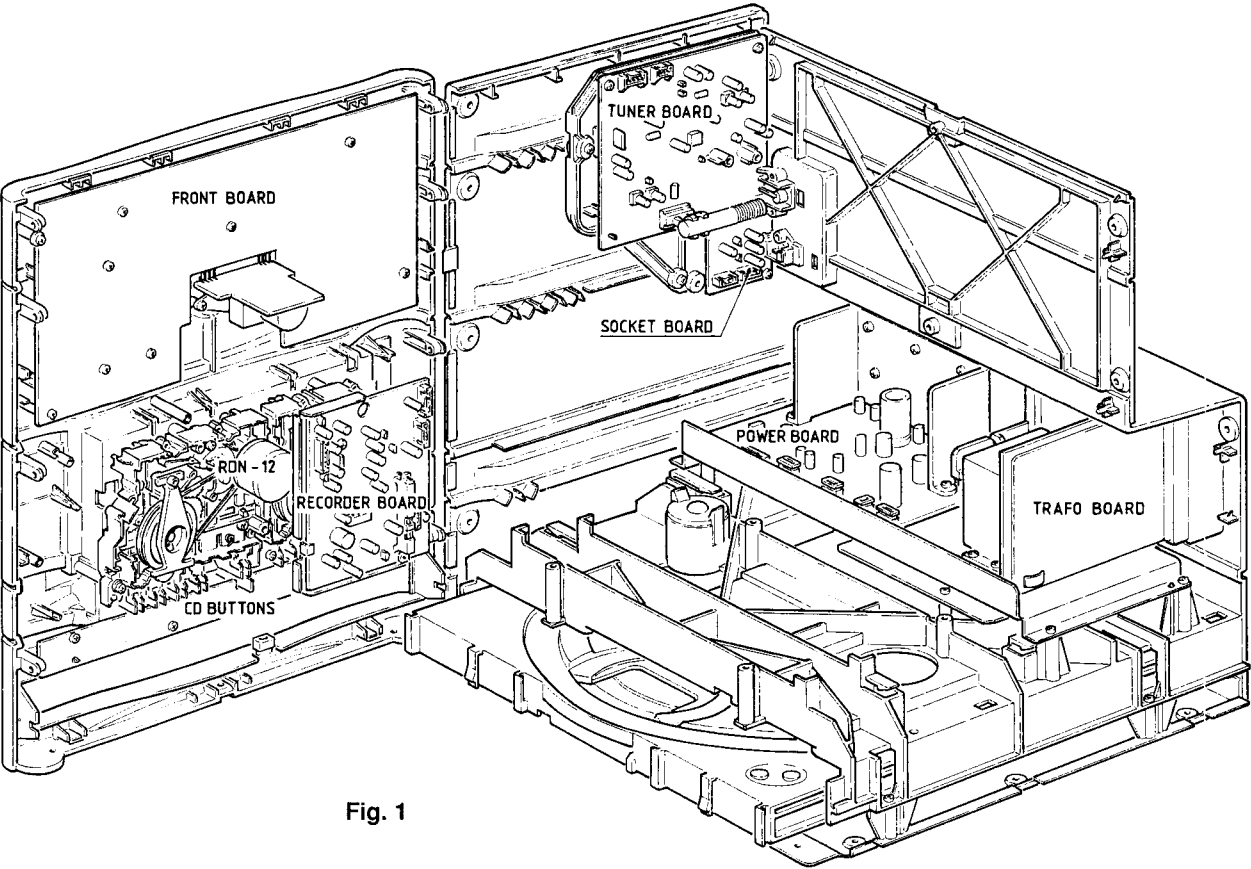

Fig. 1
- 4) Remove front (7 screws) and turn whole front aside as shown in Fig. 1.